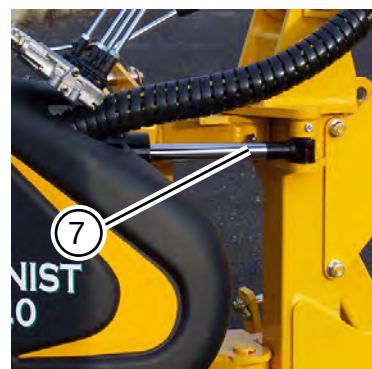
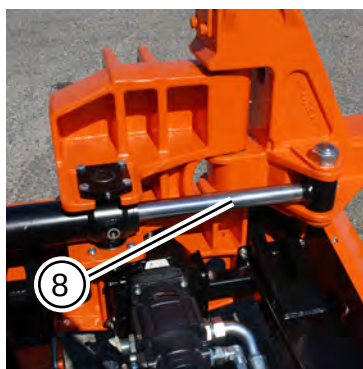

Fig. 21
Fig. 22
- 7) Dispositivo di sicurezza idraulico nel caso in cui l'attrezzo terminale incontri un ostacolo. (mod. Acrobat (esclusi Acrobat 5.0T e Acrobat 4.4), Alpinist, Leader, Leader GP, Performance, Power, President, Royal e Vigna "Fig. 21" - "Fig. 22")
- 7) Hydraulic safety device in case the terminal tool meets an obstacle. (mod. Acrobat (excluded Acrobat 5.0T e Acrobat 4.4), Alpinist, Leader, Leader GP, Performance, Power, President, Royal e Vigna "Fig. 21" - "Fig. 22")
- 7) Dispositif de sécurité hydraulique dans le cas où l'outil terminal rencontre un obstacle. (mod. Acrobat (exclu Acrobat 5.0T e Acrobat 4.4), Alpinist, Leader, Leader GP, Performance, Power, President, Royal e Vigna "Fig. 21" - "Fig. 22")
- 7) Hydraulische Sicherheitsvorrichtung im Fall der Werkzeuge ein Hindernis begegnet. (mod. Acrobat (ausgeschlossenen Acrobat 5.0T e Acrobat 4.4), Alpinist, Leader, Leader GP, Performance, Power, President, Royal e Vigna "Fig. 21" - "Fig. 22")
- 7) Sistema de seguridad hidraulica si el equipo terminal encuentra un obstaculo. (mod. Acrobat (excluidos Acrobat 5.0T e Acrobat 4.4), Alpinist, Leader, Leader GP, Performance, Power, President, Royal e Vigna "Fig. 21" - "Fig. 22")
- 7) Dispositivo hidráulico de segurança no caso da ferramenta terminal encontrar um obstáculo. (mod. Acrobat (exceto Acrobat 5.0T e Acrobat 4.4), Alpinist, Leader, Leader GP, Performance, Power, President, Royal e Vigna "Fig. 21" - "Fig. 22")